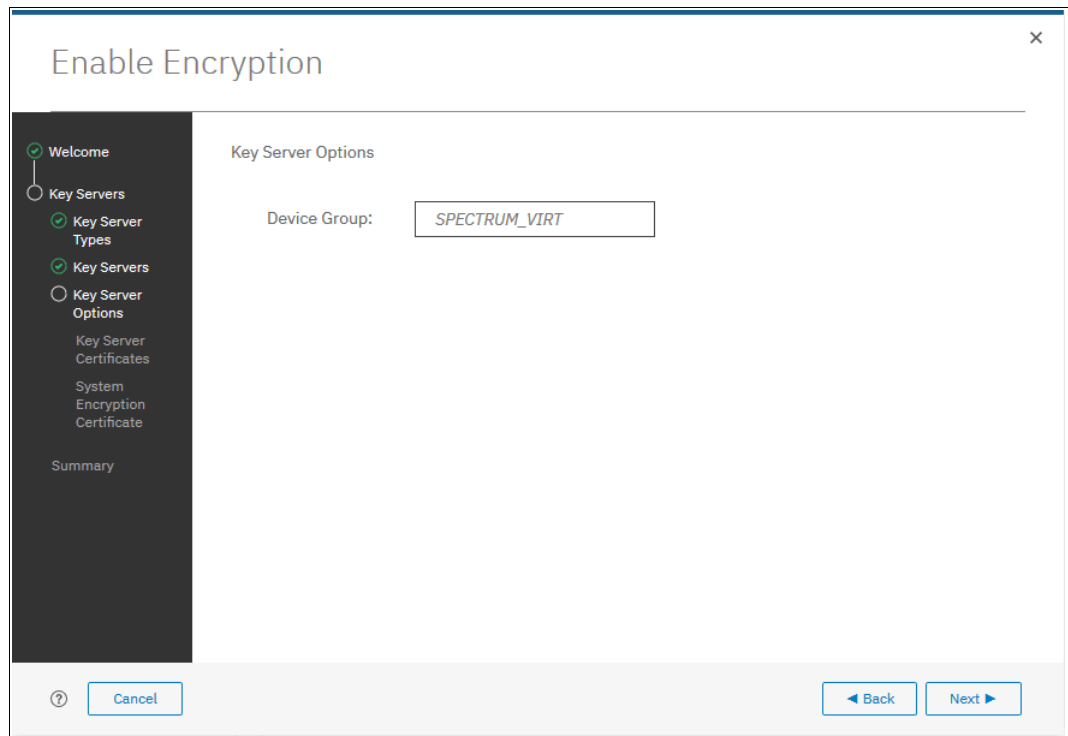

Figure 13-34 Checking key server device group
- The next window in the wizard is a reminder that SPECTRUM_VIRT device group that is dedicated for IBM Spectrum Virtualize systems must exist on the SKLM key servers. Make sure that this device group exists and click **Next** to continue (see Figure 13-34).